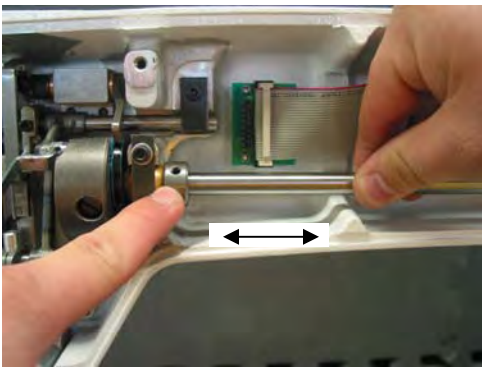

Figure 4.2
- Loosen the thrust collar (See figure 4.2)